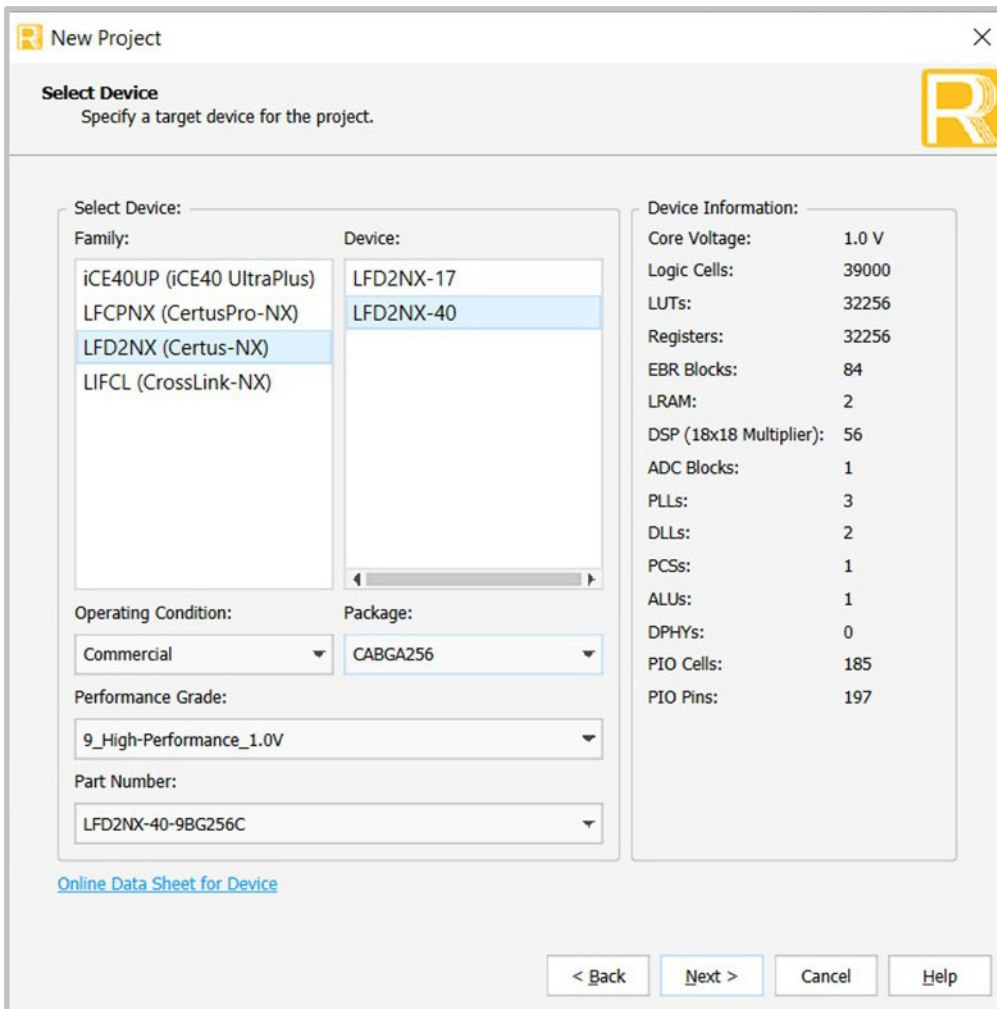

Figure 5: Selecting the FPGA Device
6. Select the appropriate device, click **Next** and choose **Lattice LSE**; click **Next** and **Finish**, see **Figure 5**.